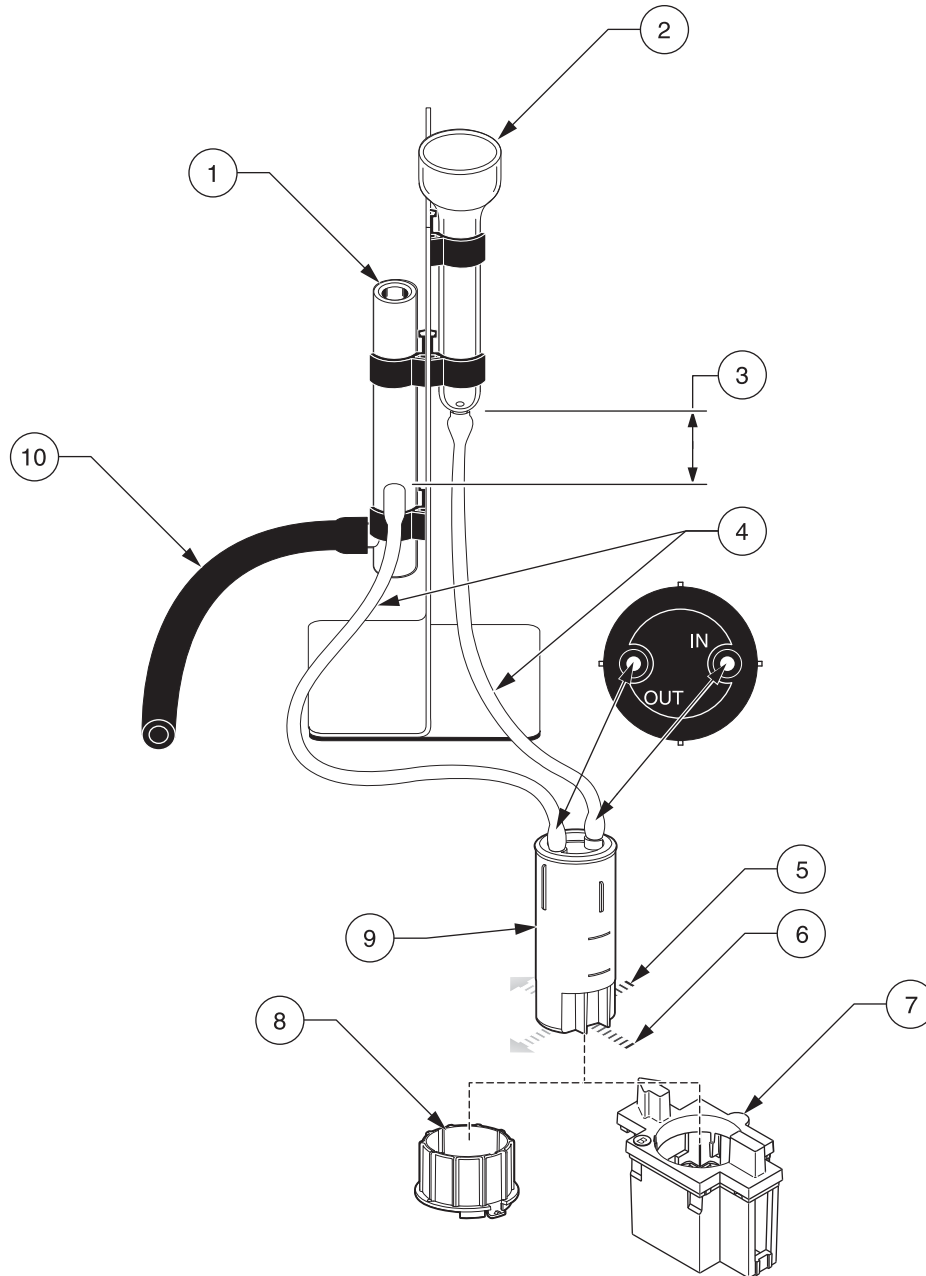

Figure 1 Pour-Thru cell assembly
The Pour-Thru cell must be assembled and installed before use. Figure 1 illustrates the assembled unit. If any of these items are missing or damaged, refer to the manufacturer or a sales representative immediately.
2. Connect the $\frac{1}{8}$ in. cell inflow and outflow tubes to the Pour-Thru cell. See Figure 1.
3. Wipe the Pour-Thru cell with a lint-free cloth and insert it fully in the cell holder to lock in position so that the cell is oriented for the necessary pathlength and cannot rotate in the adapter. For the 22-mm orientation, the inlet and outlet fittings are parallel to the light path. For the 1-cm orientation, the inlet and outlet fittings are perpendicular to the light path. See Figure 1.
7. For proper drainage, adjust the heights of the overflow tube assembly and funnel as shown in Figure 1, item 3. The funnel height determines the speed of sample flow through the cell. The higher the funnel, the faster the flow. To minimize air bubbles, adjust the funnel so that it drains completely with the final level of liquid in the tube about 5 cm (2 inches) below the tip of the funnel.
The 22-mm Pour-Thru cell path length (Figure 1 on page 3) should be used for any DR/2400 or DR 2700/2800/3800 method that specifies a 1-inch or 22-mm sample cell. The 10-mm (1-cm) path length can be used where higher ranges or a shorter path length is required. The cell must be oriented correctly for the desired path length as described in Pour-Thru installation.